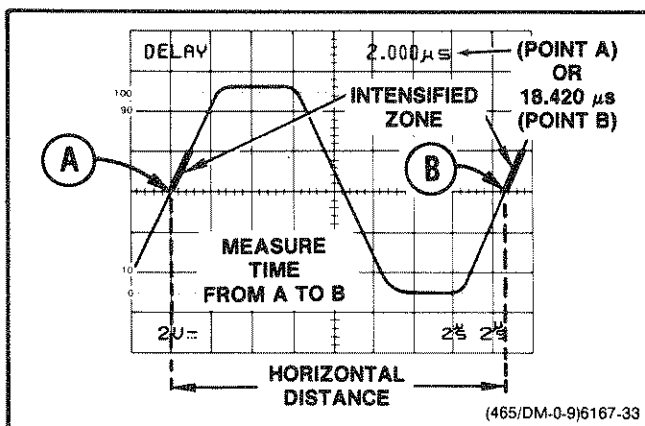

Figure 6-13. Time duration.
6. Adjust the DELAY control to move the start of the intensified zone so that it just touches the intersection of the waveform and the center horizontal graticule line (see Figure 6-13, Point A). Record the DELAY readout value.
7. With the DELAY control move the start of the intensified zone to the second time measurement point (see Figure 6-13, Point B). Record the DELAY readout value.
EXAMPLE: The first DELAY readout value is 2.000  $\mu\text{s}$  and the second is 18.420  $\mu\text{s}$  (see Figure 6-13).